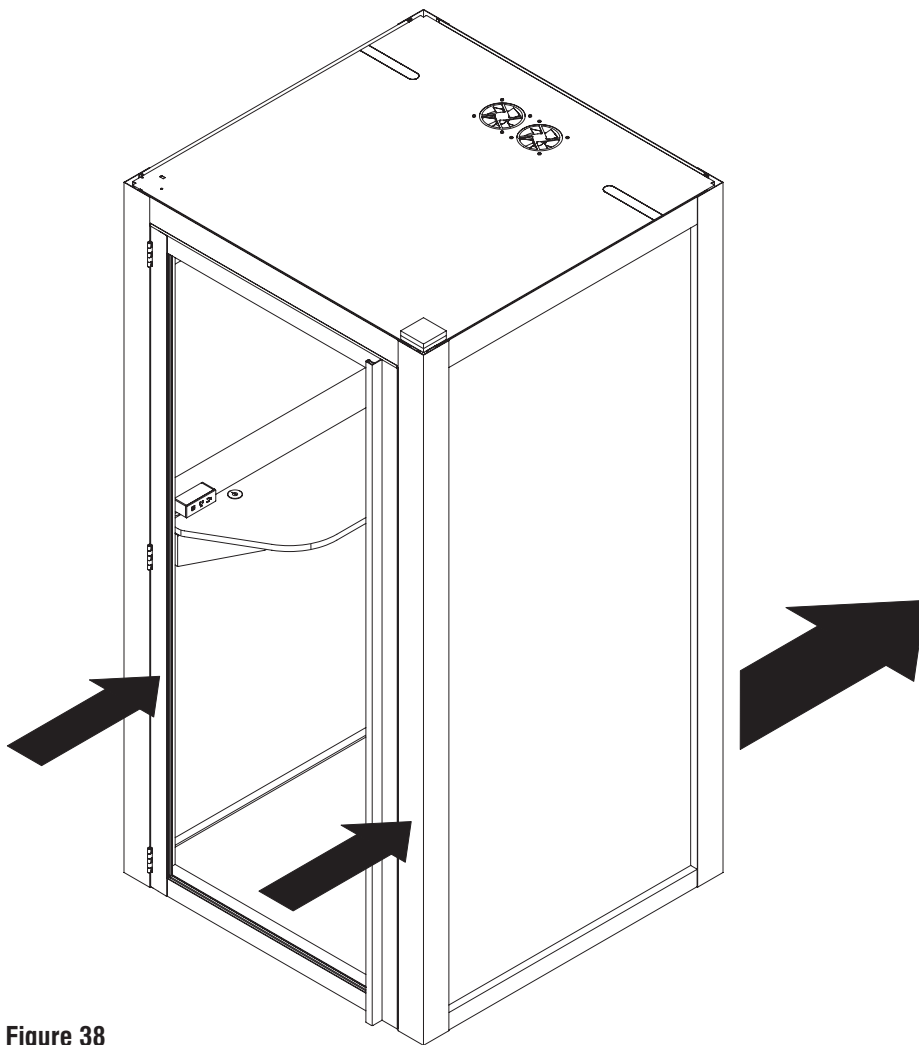

Figure 38
1. If the WiggleRoom pod being assembled must be moved a short distance to its final location, two people are required. With one person pushing at each corner, push the unit low, approximately $\frac{1}{3}$ of the pod height to the floor, and ease the pod to the final location (Figure 38).